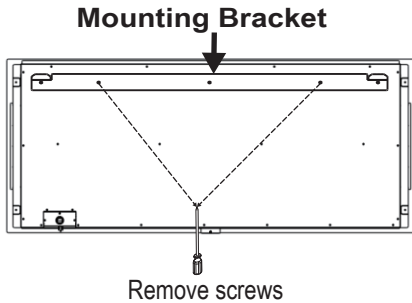

Figure 1
- Place the unit face-down on a soft, non-abrasive surface. Remove the mounting bracket from the back of the unit by removing the screws. [Figure 1]